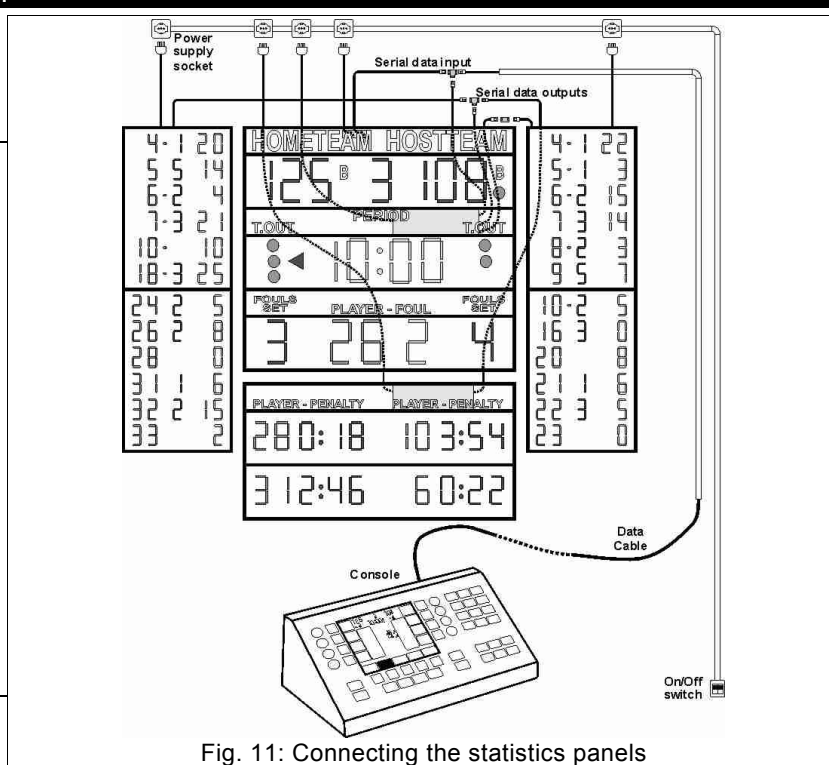

Fig. 11: Connecting the statistics panels
Each statistics panel comes with a power cord and plug. To turn the panel on and off easily, we suggest that a power socket be positioned just above the panel (see the example in Fig. 11). The power socket can then be controlled by a switch installed in an easy-to-reach position; this will facilitate switching off the system when not in use and help save energy and prevent unnecessary wear and tear.
Fig. 11 shows a configuration of the central scoreboard, the side statistics panels displaying fouls/points of players, and the lower scoreboard displaying penalty times.
- Using the adapter provided, connect the panels displaying fouls/points of players to one of the two "SERIAL DATA OUTPUT" cables of the central scoreboard (Fig. 11).